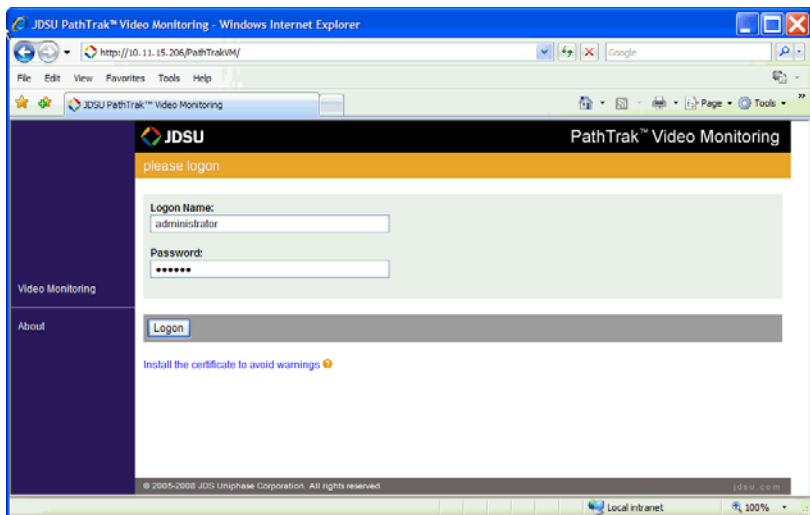

Figure 58 PathTrak™ Video Monitoring logon page
- 3 On the PathTrak™ Video Monitoring logon web page Logon Name text box (Figure 58), type **your logon name or the default logon name**.